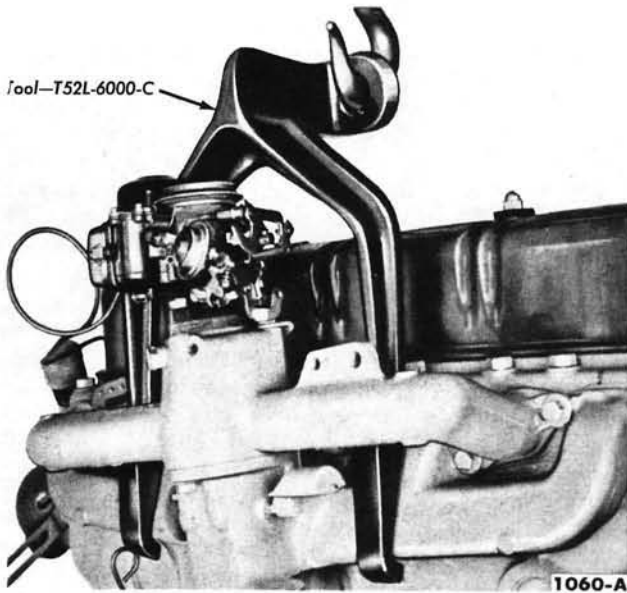

FIG. 7—Engine Lifting Hook
5. Attach the engine lifting hook (Fig. 7). Remove the engine right and left front support to frame bracket bolts. Lift the engine out of the engine compartment and install it on a work stand (Fig. 9).